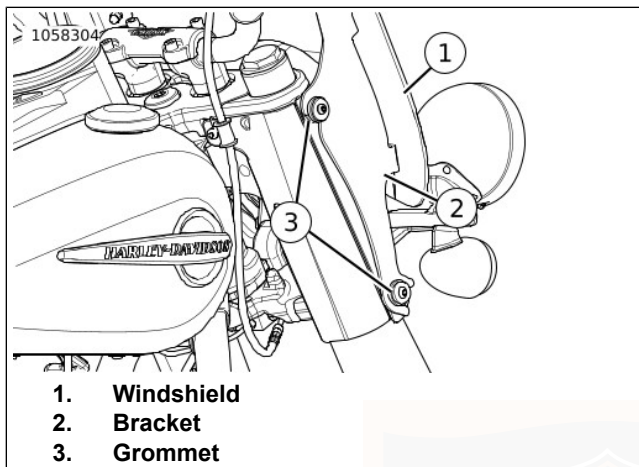

Figure 37. Windshield Assembly
1. See Figure 37. Move the TOP of the windshield assembly (1) forward, until the TOP bracket (2) notches slide away from the grommets (3).
1. See Figure 37. Verify grommets (3) and brackets (2) are in place and in good condition.